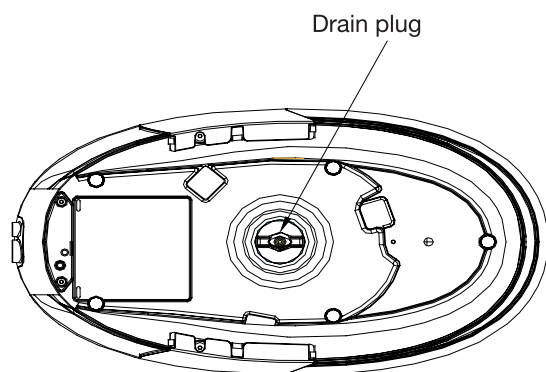

FIGURE 6
3. Turn the boiler over and unscrew the drain plug (figure 6), then empty the water from the boiler.